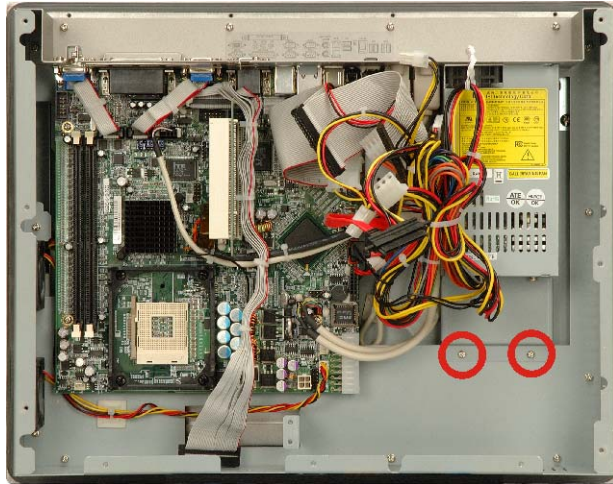

Figure 4-11: PSU Bracket to Chassis Retention Screws
The PSU module is secured to the PPC-5170 flat panel PC with six retention screws, two connect to the bottom panel (**Figure 4-10**), two connect to the internal PSU bracket (**Figure 4-12**) which is connected to the chassis by two screws (**Figure 4-11**).
Step 5: Remove the retention screws that connect the PSU bracket to the chassis (**Figure 4-11**).